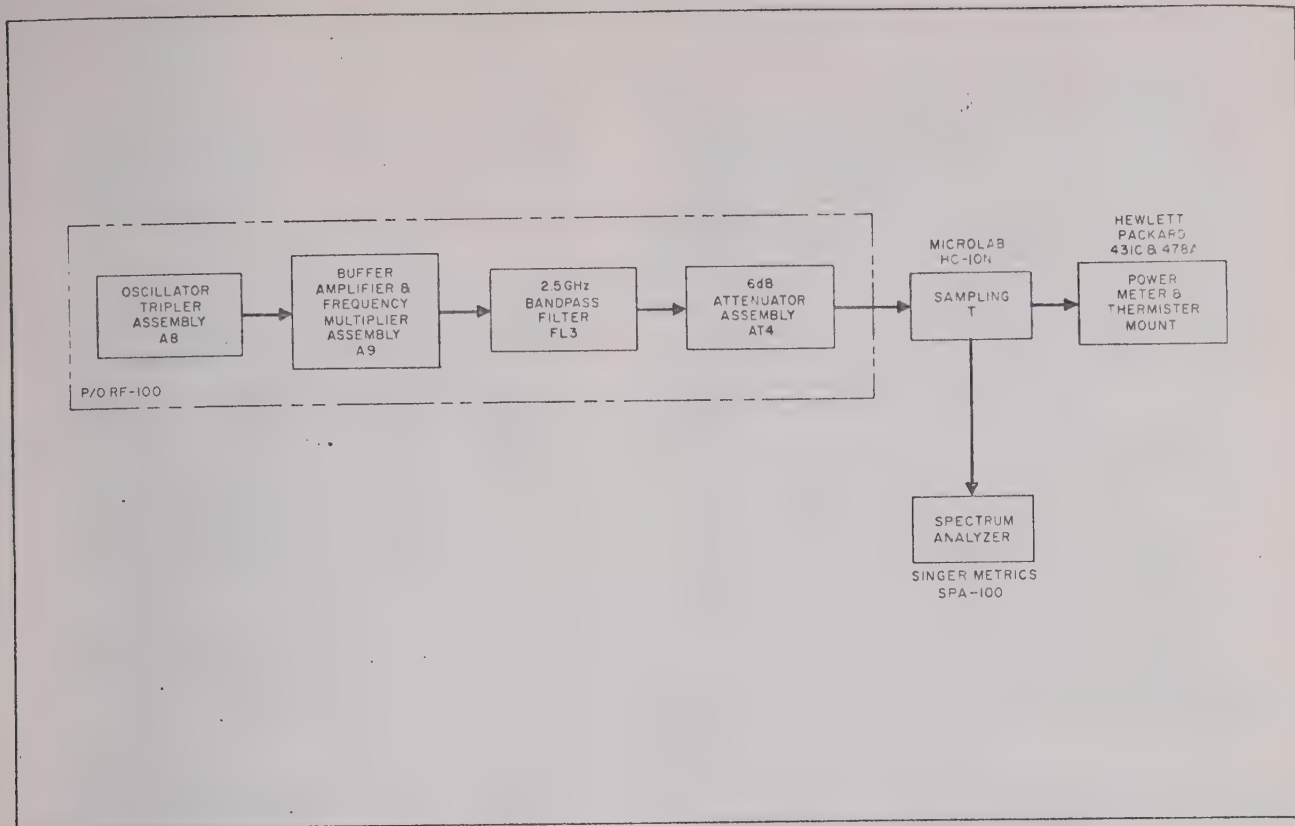

Figure 4-10. Test Setup for Alignment of 2.5-GHz Buffer Amplifier and X8 Frequency Multiplier Assembly A8
a. Connect the equipment as shown in figure 4-10.